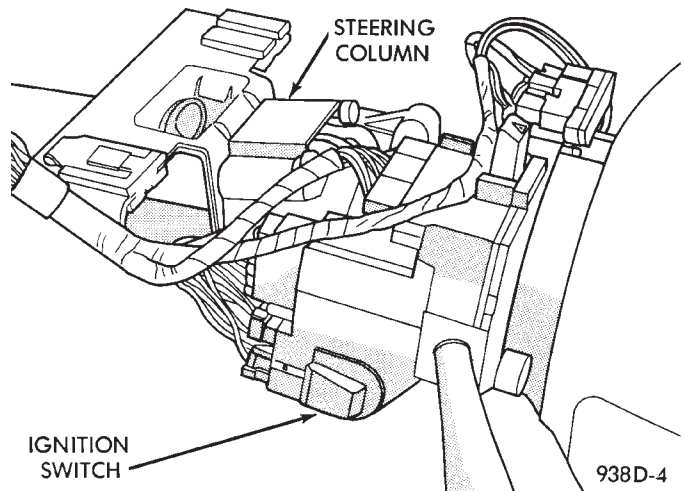

Fig. 47 Ignition Switch Removal/Installation
- (5) Disconnect electrical connector from ignition switch (Fig. 47).
- (6) Remove Ignition switch mounting screws. Remove switch.